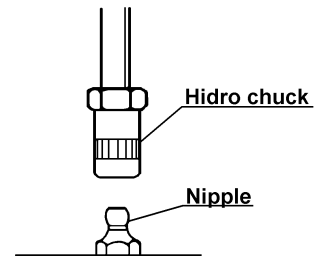

Fig. 6
- 1) Wipe the grease nipple to be used for greasing completely. After that, push the hydro chuck of the high-pressure grease gun against the nipple to perform chucking as vertically as possible. (Fig. 6)